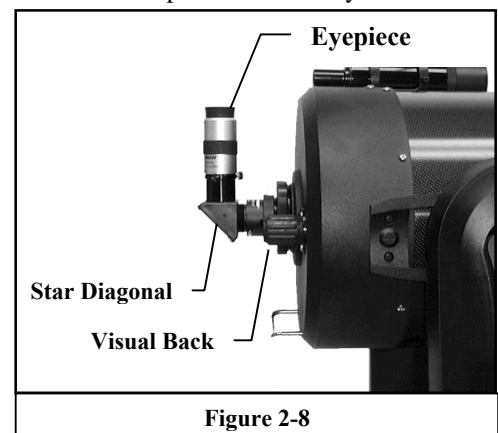

Figure 2-8
2. Place the knurled slip ring on the visual back over the threads on the rear cell (Fig 2-8).